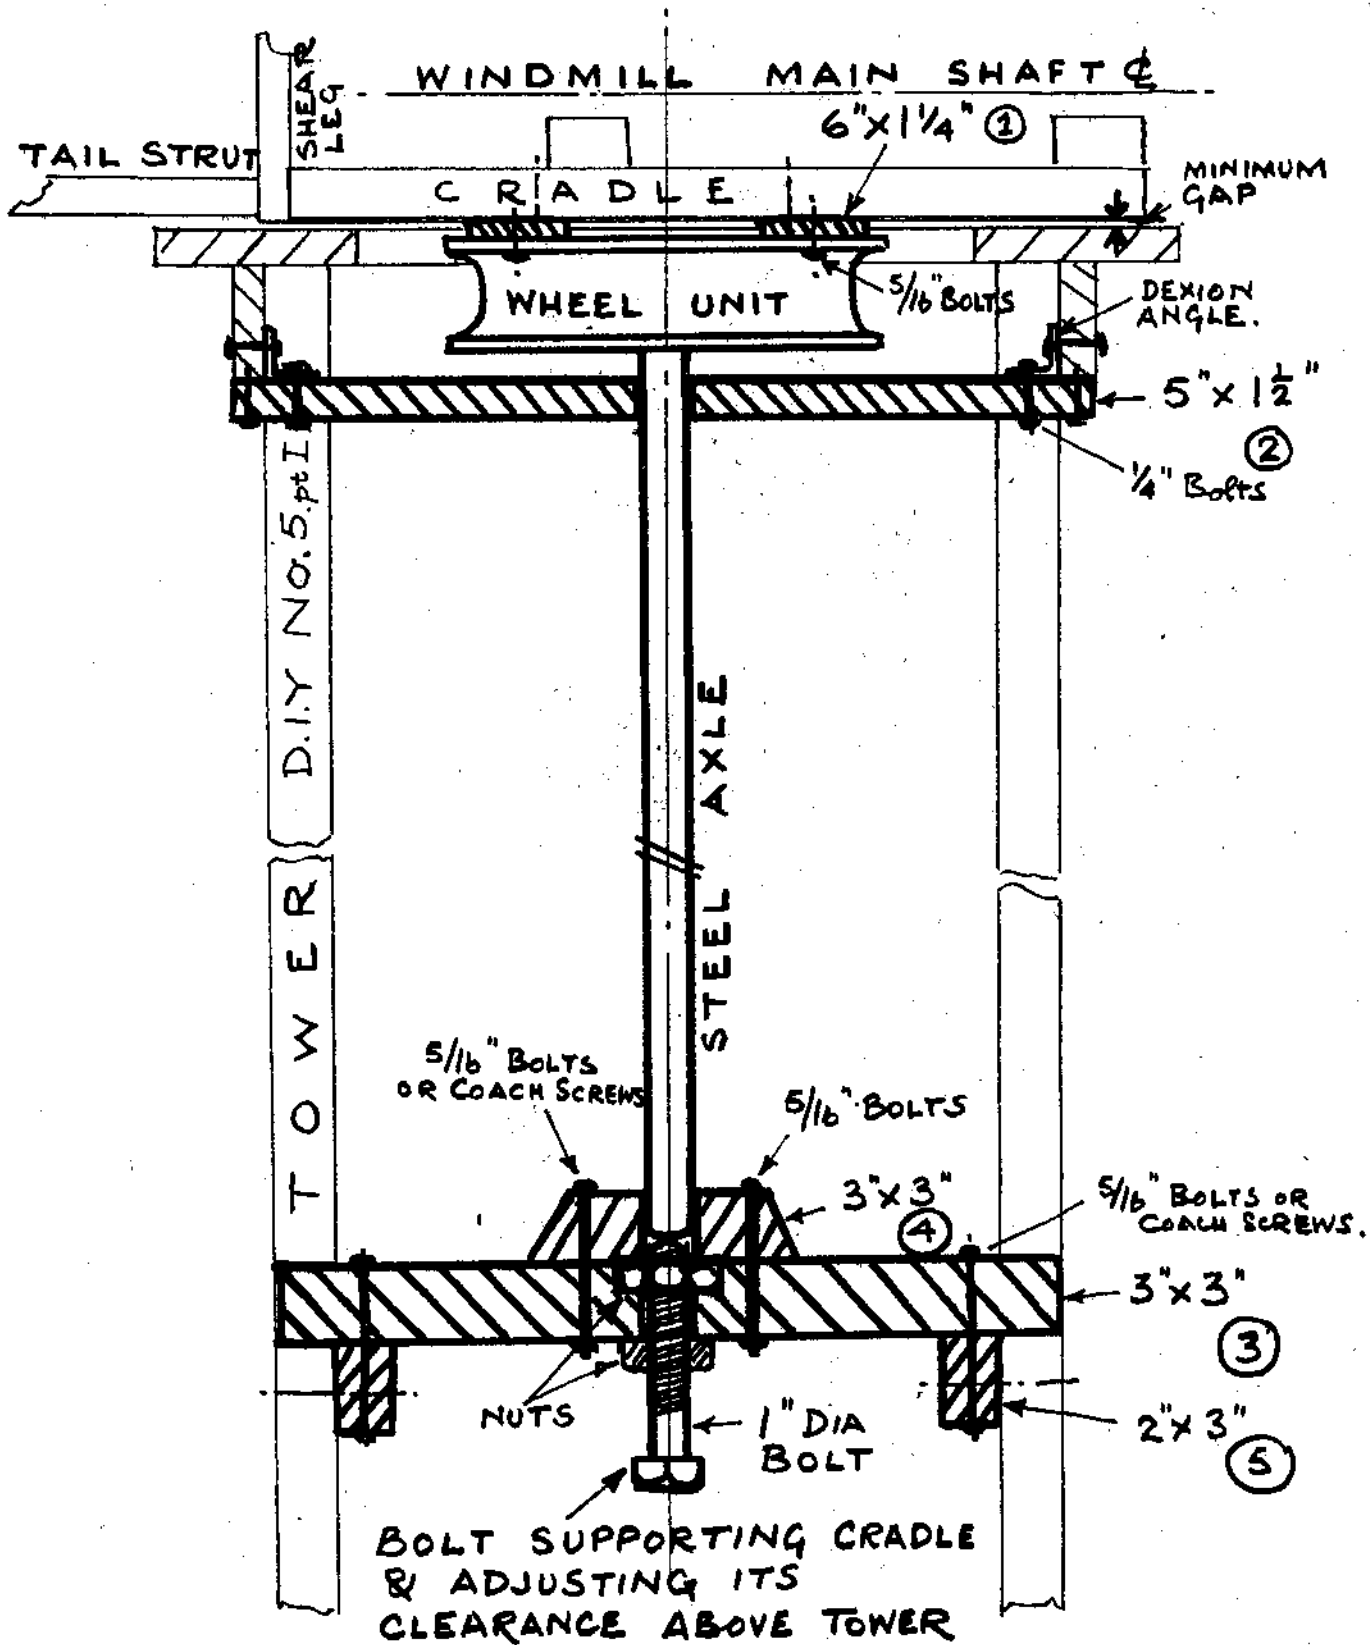

FIG. 3.
TURNTABLE: With the tail in place and the cradle complete with gearbox and generator standing on a bench, we bundled up spars and sails and hung them from the face plate so that we had the total weight of the head in its working distribution. We could now find the point of balance of the head, that is the centre line for the turntable. We rolled a broomstick under the cradle until the whole thing balanced, and marked the place on the cradle. We removed the tyre from the roadwheel of the caravan axle unit, and drilled the wheel so that we could bolt on two pieces of 6" x $1\frac{1}{4}$ " hardwood, in length that of the width of the cradle (1) (Figure 3). These in turn were bolted to the cradle so that the centre of the wheel accorded with the marked point of balance. We checked there was room to replace the hub nuts on the wheel to refasten it to its brake drum and axle when the time came. The brake itself may be left intact - just check that it is not binding - as ours was after long disuse - it will be a useful way to check rotation of the head if maintenance is needed in a strong wind.
The mounting of the axle, vertically in the tower, is shown in Fig. 3. We used a length of 5" x $1\frac{1}{2}$ " pine, bored centrally and chiselled to a square hole to allow the square axle to slide through and this was attached with Dexion brackets and $\frac{1}{4}$ " bolts to the timber skirt at the top of the tower. It will be seen that the weight of the complete head is supported on an 1" dia bolt and nut in a bottom cross beam. We used 3" x 2" pitch pine; if white or yellow pine is used an unflawed piece of 3" x 3" minimum should be used. This beam was bored centrally to take the 1" bolt, and counter-bored and chiselled to accommodate the nut as shown. A further short length of 3" x 3" is then bored and cut with a square hole to act as lower guide to the axle, and screwed or bolted to the crossbeam as shown (3) (4).